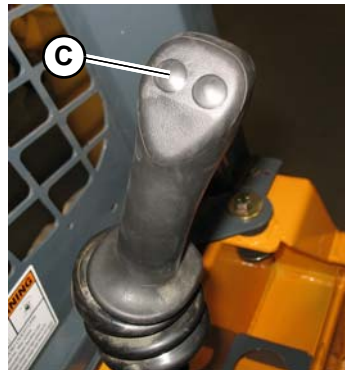

Figure 34 – Two-Speed Drive Control Button
Press button (C, Figure 34) to switch between high and low two-speed drive ranges. When the high-speed two-speed drive range is activated, the high-speed indicator (H) on the control pad is lit.